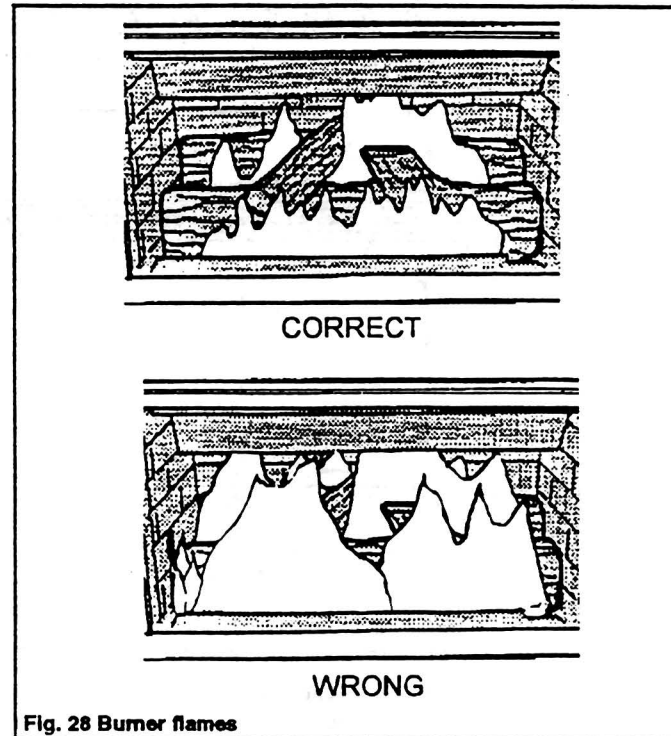

Fig. 28 Burner flames
- 23.1 A periodic visual check of the pilot and burner flames should be made (see figures 28 & 29).